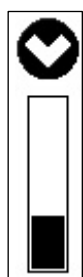

Fig. 9. Progress indicator showing that the device is being powered up
Press the button (1) to switch on the PhysioMem. The progress indicator in the display shows that the device is being powered up (Fig. 9).